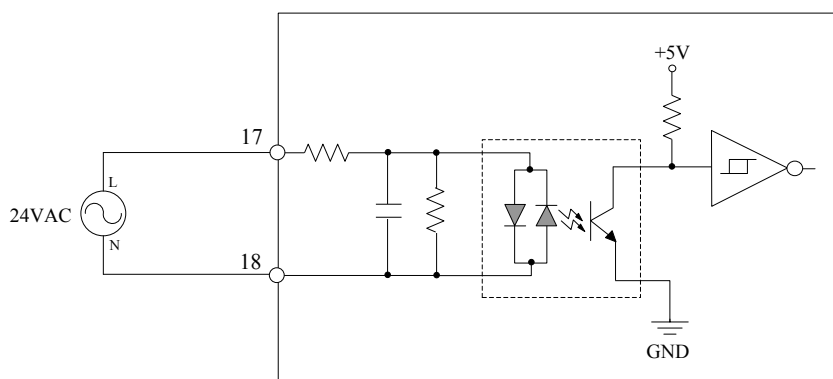

Figure 8.29: Field Power Loss Detection Circuit of LK613
- As shown in Figure 8.29, terminal "17" connects to the L end of field power supply while terminal "18" connects to its N end. LK613 carries out power loss detection by checking the changes of input voltage between these two terminals. In case of any failure, the failure status will be reported to the controller as the diagnosis data.